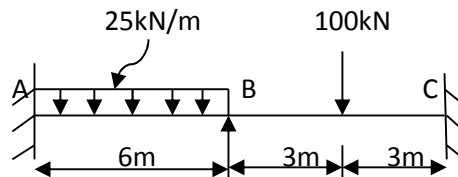

Fig.5
7. Analyse the beam shown in fig.5 below using stiffness method. $EI=\text{Constant}$